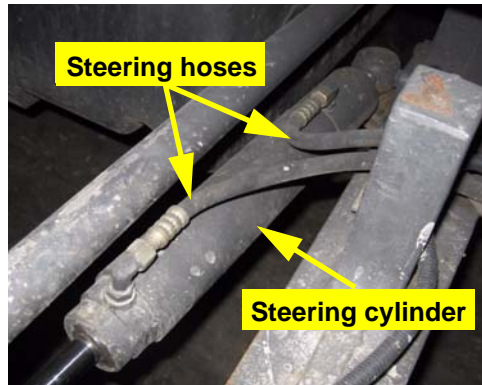

Figure 6c: Tank line fitting installed
- c. Locate the steering cylinder on the rear axle. Disconnect the two rubber steering lines from the steering cylinder and install run-tee fittings **J** (Figure 6c).